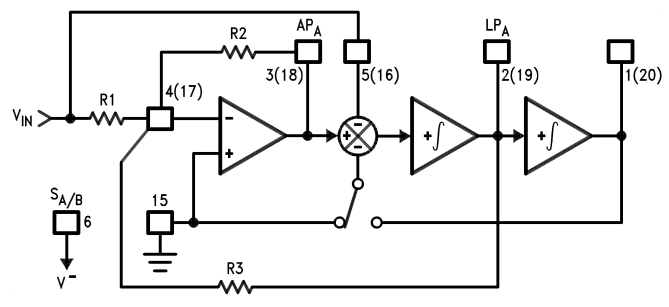

Figure 50. MODE 6c
8.4.1.11 MODE 6c: Single-Pole, AP, LP Filter (See Figure 50)
Also, one output can have a reasonable small voltage on it while another is saturated. This is most likely for a circuit such as the notch in Mode 1 (Figure 40). The notch output will be very small at  $f_0$ , so it might appear safe to apply a large signal to the input. However, the bandpass will have its maximum gain at  $f_0$  and can clip if overdriven. If one output clips, the performance at the other outputs will be degraded, so avoid overdriving any filter section, even ones whose outputs are not being directly used. Accompanying Figure 40 through Figure 50 are equations labeled *circuit dynamics*, which relate the Q and the gains at the various outputs. These should be consulted to determine peak circuit gains and maximum allowable signals for a given application.